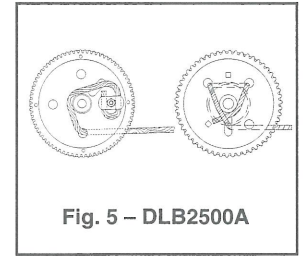

Fig. 5 - DLB2500A
Attach cable or rope by methods described in illustrations (Fig. 1 - Fig. 5). NOTE: Keep a minimum of three (3) full turns of cable or rope on the reel at all times.